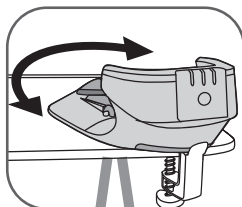

Fig.4
- Adjust the angle of the base on the board – fig.4. We recommend that the base is adjusted to a 45° angle for greater comfort.